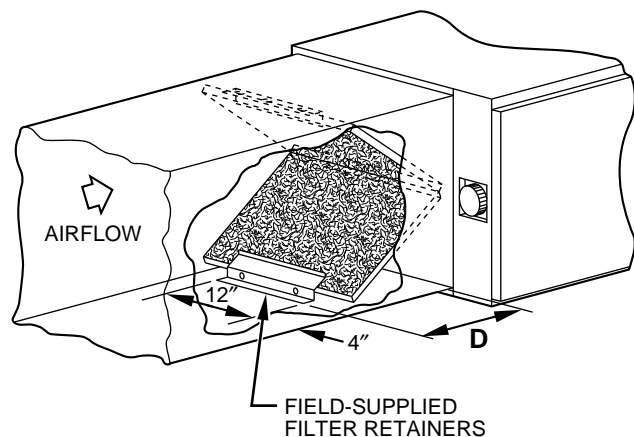
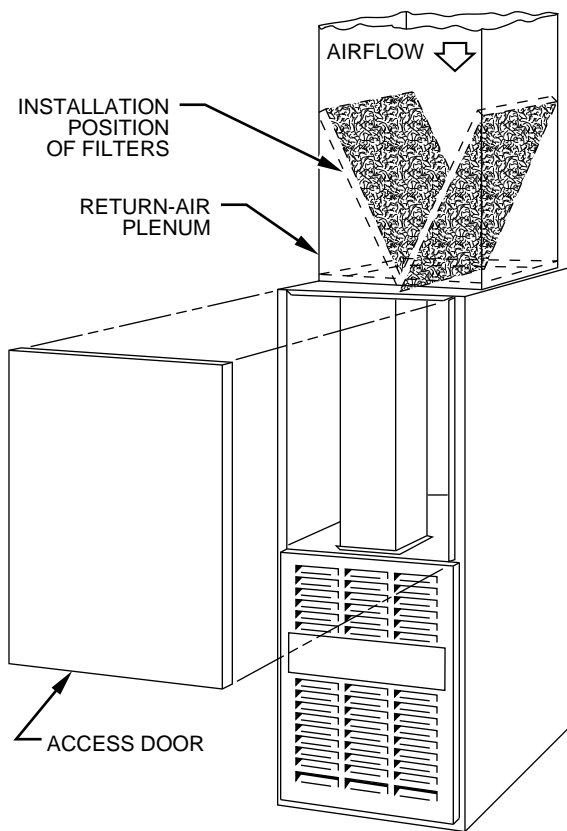

Fig. 11—Horizontal Filter Arrangement
Fig. 12—Downflow Filter Arrangement
3. Install field-supplied filter retainers as indicated in Fig. 11 and Table 4 before connecting return-air duct to furnace.
The 2 factory-supplied filters are shipped in the blower compartment. After return-air duct has been connected to furnace, install filters in a V-formation inside return-air plenum. See Fig. 11 and Table 4 for horizontal applications. Horizontal filter retainers must be field supplied. See Fig. 12 for downflow applications.